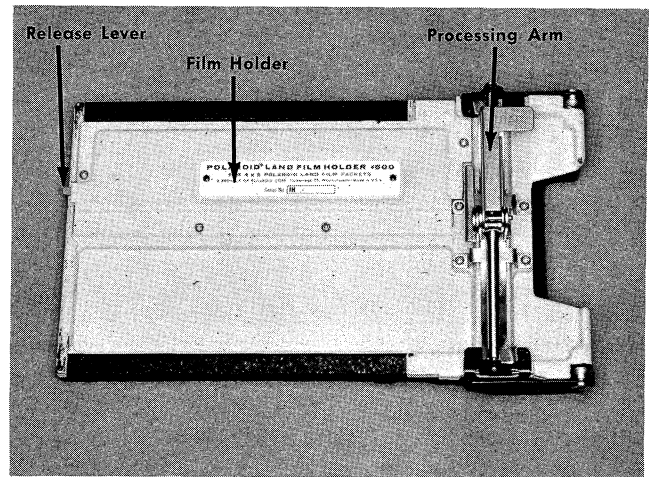

Fig. 2-8 The Polaroid 4 x 5 Film Holder.
**Loading the Film Holder.** Insert the holder into the back of the 4x5 back on your camera just as you would a standard film holder (see Fig. 2-8). Engage the slide locks on the camera back into the slots on the film holder.